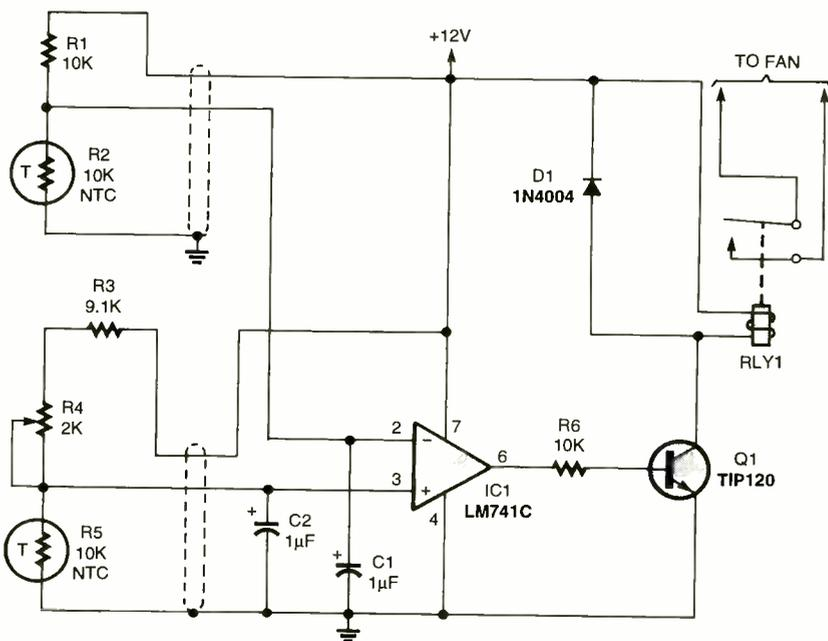

Fig. 3. A control circuit for keeping room temperatures between ceiling and floor more even uses a simple comparator to control a ceiling fan.
**A** A pair of thermistors, R2 and R5, and a simple comparator, IC1, should do the trick, as shown in Fig. 3. At 25° C, the two thermistors have a value of 10,000 ohms, so I chose a 10,000-ohm
Fig. 3. Although our methyl-alcohol fuel cell looks similar to a wet-cell battery, the fluid is based on potassium hydroxide (commonly referred to as "lye")—at the extreme opposite end of the acidity scale from sulfuric acid used in car batteries.
The finished fuel cell is shown in Fig. 3. The potassium-hydroxide solution is placed in an open glass vessel. The electrodes are draped inside the vessel, with about 1/2 inch on the outside to connect alligator-clip leads. The leads connect to a volt-ohmmeter. Add 10 milliliters of methyl alcohol to the potassium hydroxide solution. My fuel cell developed about 0.25 volts at 30 mA. The current quickly drops as the silver electrode becomes covered with a fine mist of bubbles caused by the reaction. After disrupting the bubbles, the voltage and current will resume.